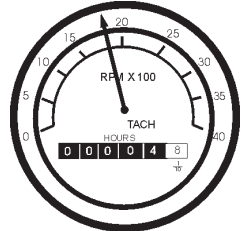

Figure 51. Engine Tachometer Gauge
11. The **tachometer gauge** (Figure 51) will indicate the speed of the engine when the generator is operating. Under normal operating conditions this speed is approximately 1600 RPM's.